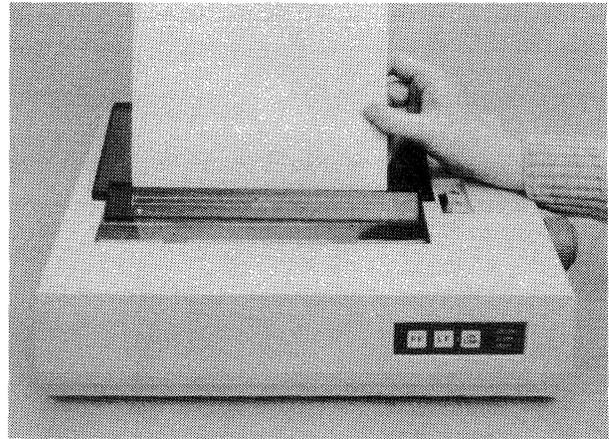

Figure 2-4B Inserting Sheet Paper
2. Insert the sheet paper into the paper slot (Figure 2-4B). Standard 8½ × 11" paper should line up with the LETTER lines. A4 is the European (210 mm wide) paper.